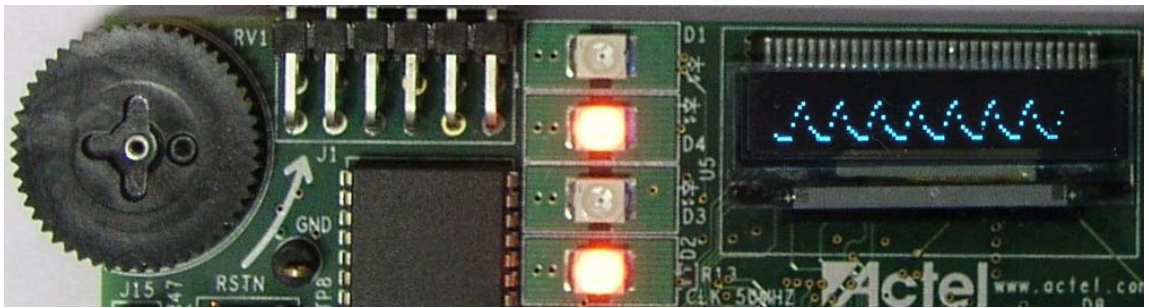

Figure 2-29 · Triangular Wave
- Click **Triangular Wave** and repeat step 5 to see the triangular waveform on the OLED (Figure 2-29).